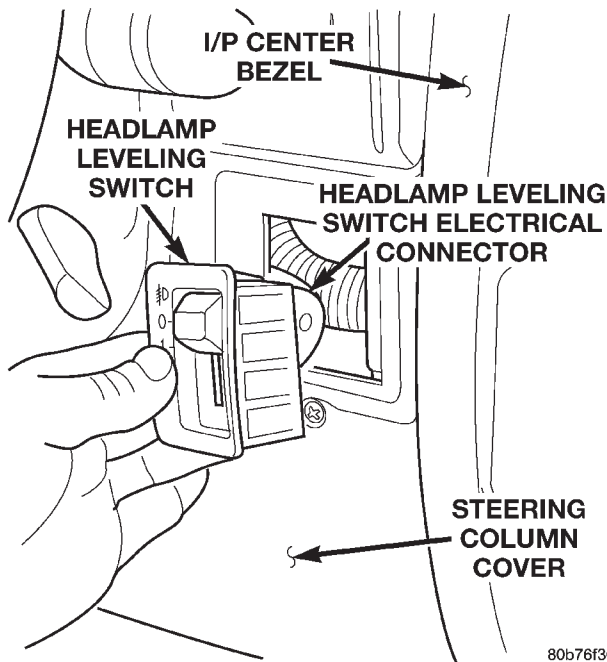

Fig. 2 Headlamp Leveling Switch Electrical Connector
(2) Disconnect the headlamp leveling switch electrical connector (Fig. 2) and remove the headlamp leveling switch.